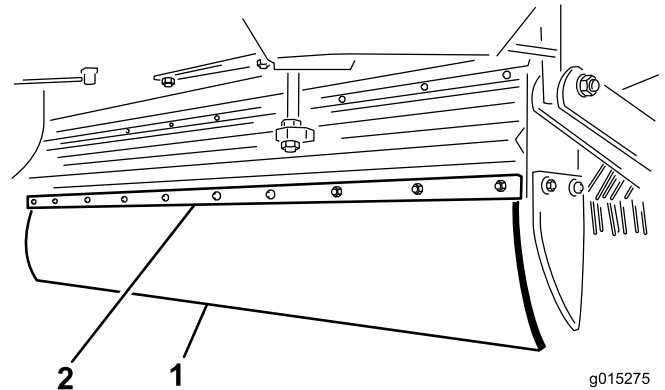

Figure 25
1. Remove the 10 bolts, washers, and nuts on the mounting flap and flap retainer (Figure 25).